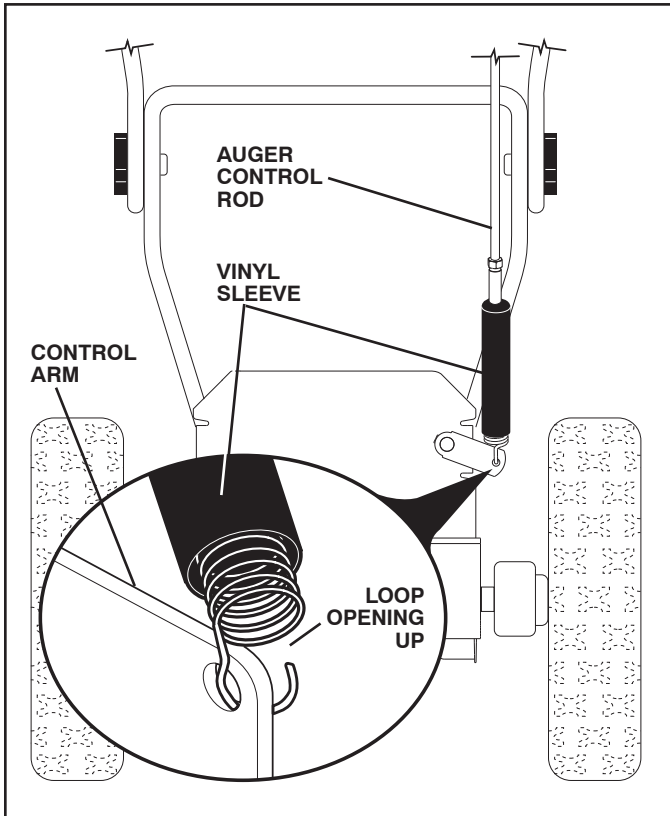

FIG. 5
INSTALL AUGER CONTROL ROD (See Figs. 5 and 6)
2. Hook end of spring into control arm with loop opening up as shown. (See Fig. 5)